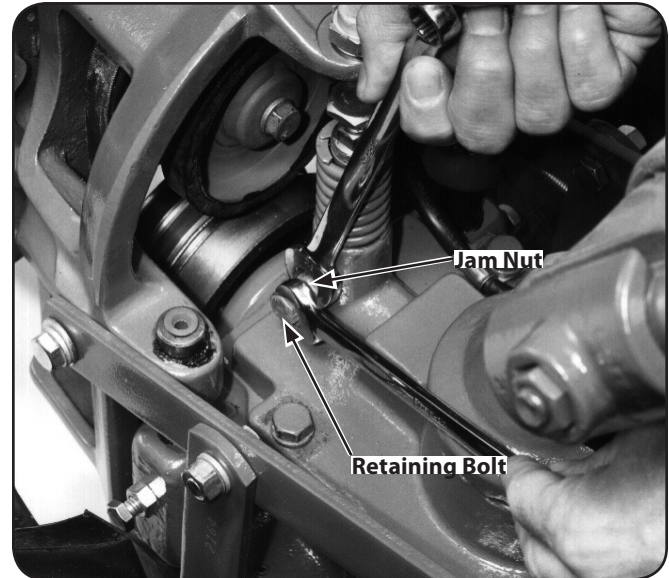

**Figure 6-21**
- Use your left hand to hold the Wheels/Tines/PTO Drive Lever up in REVERSE, while briefly pulling out the engine recoil starter. The reverse disc should turn the lower pulley. See Fig. 6-21. If not, or it requires a lot of pressure to hold the lever up in REVERSE, then the reverse adjustment bolt must be adjusted downward. When correctly adjusted, the Wheels/Tines/PTO Drive Lever should pop out of reverse when the lever is released, but not require exceptional effort to hold it up in the reverse position.